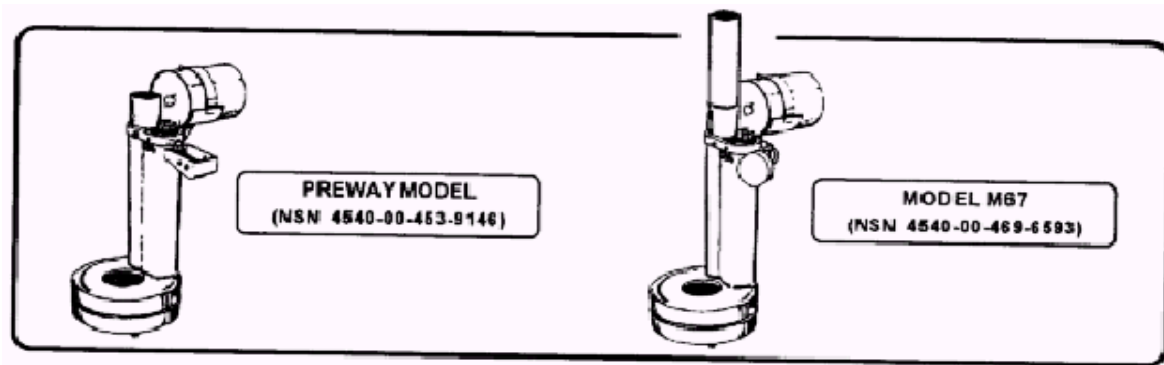

Figure 3-6. Immersion burner.
c. **Immersion Heaters.** Immersion heaters are used to heat water for clean up operations at the field mess. Two types of immersion heaters are the standard model and the preway model. Figure 3-6 shows what they look like. The models look very much alike, with the main difference being the two column stacks on the heater body.